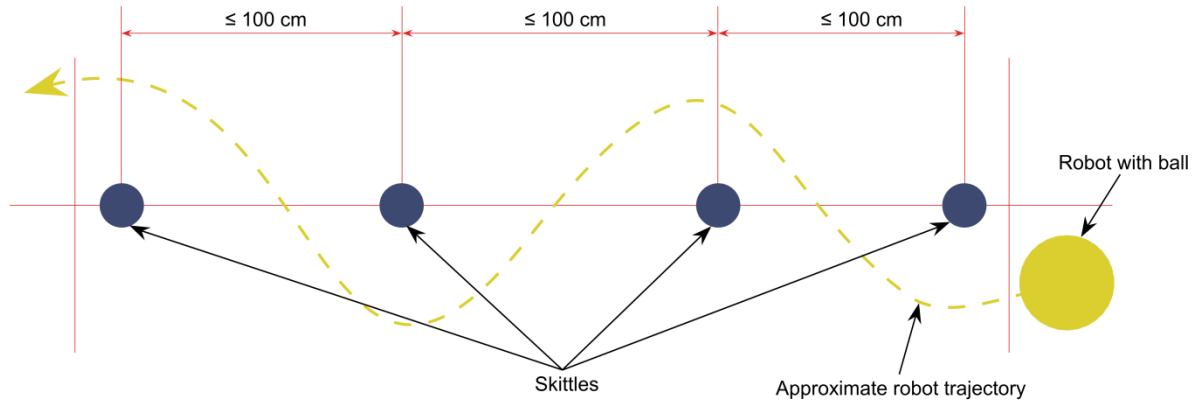

Fig. 1. Performing Dribbling event
- 2.1.1. Dribbling. Four skittles are placed maximal 100 cm from each other on the horizontal surface along the straight line. The robot performing the event starts with the ball outside the first skittle line, and passes by skittles dribbling until it crosses the second skittle line (see Fig. 1). The event is considered completed if all the robots participating in the team (including the goal keeper) take the ball to the end neither knocking over any skittle nor losing the ball. Otherwise the event is considered failure.
3.1.2. Fig. 1 and 2 were added.